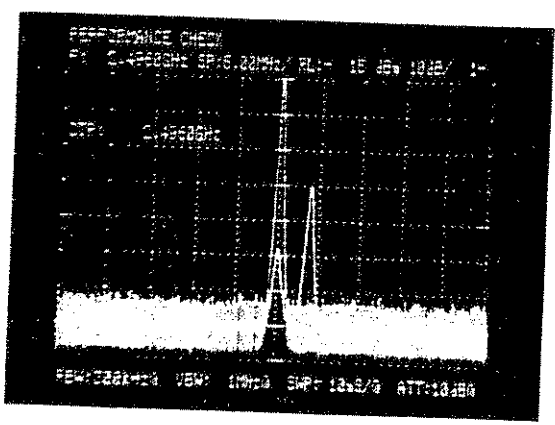
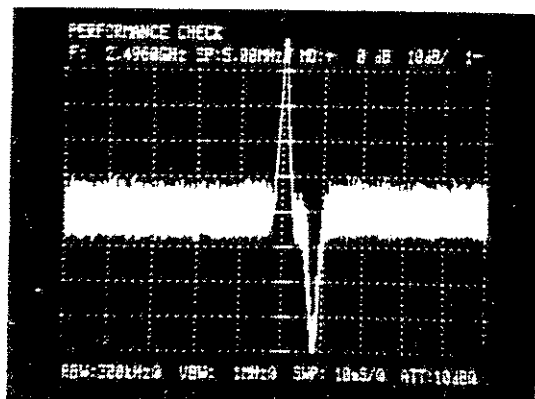

Fig. 3-23 Changing Center Frequency in AVERAGE MODE
Fig. 3-24 Difference Between A and B
3 Press the [CENTER FREQ] #4 key and change the center frequency to move the waveform peak position. The data which were at the original peak position decrease gradually while the data at the new position increase gradually, as shown in Fig. 3-23. When signals with spectra which are temporally irregular must be observed, their probability of appearance can be determined in the AVERAGE mode from the height of each spectrum after a period of time.
2.	Press the READOUT [REF LINE] #45 key several times. When the difference is displayed, [REF LINE] #45 located below [A-B] #44 indicates where to align the level at which A minus B is zero. There are three zero positions: top (TP), middle (MD), and bottom (BT) horizontal scale line. In each time the key is pressed, the zero position is changed sequentially from middle scale (MD) to bottom (BT) and then top scale (TP). Figure 3-24 shows the display of an A-B (REF LINE: MD) mode derived from Fig. 3-23.